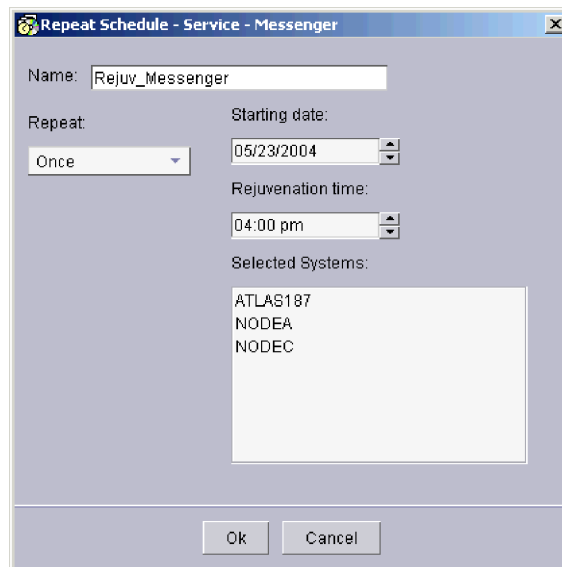

Figure 136. “Repeat Schedule - Service” window
2. In the left pane, click the managed system or systems and a single service on which you want to schedule a rejuvenation; then, drag the managed system or systems onto the calendar date (in the right pane) on which you want the first rejuvenation to occur. The “Repeat Schedule - Service” window opens. See Figure 136. The **Selected Systems** field displays the managed system or systems that you selected in the “Software Rejuvenation” window.